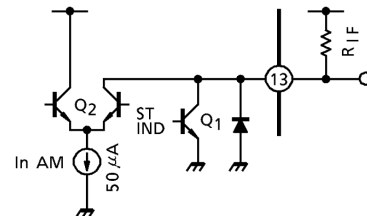

Fig.5 Internal circuit of pin⑬
- The terminal of pin(13) is built in stereo indicator function and modulated AM IF signal output. In AM mode, R_{IF} ($3k\Omega$ or less) should be connected between V_{CC} and pin(13), or pin(13) should be connected to V_{CC} directly. (Fig.5) In case that $R_{IF} > 3k\Omega$ or pin (13) is opened, this IC doesn't operate normally in AM mode. Because transistor Q2 is saturated.